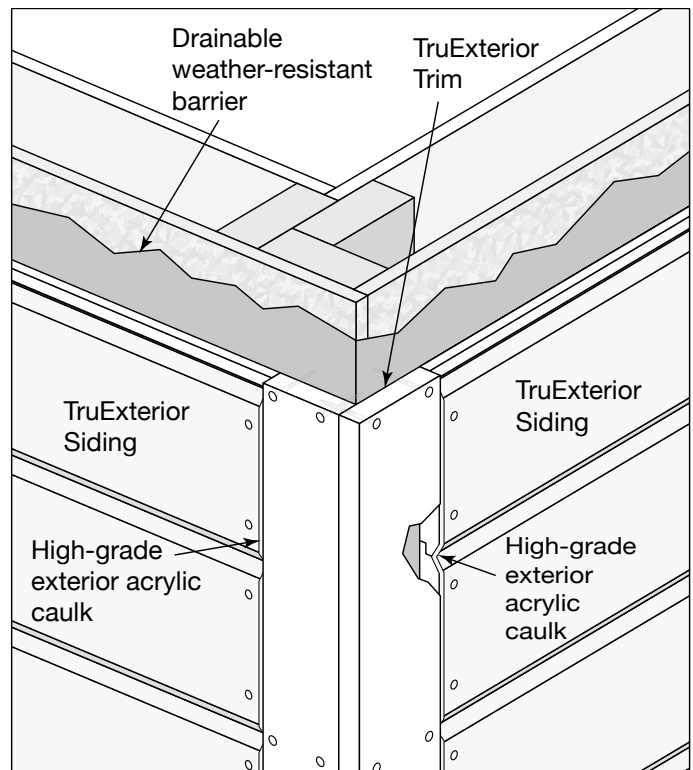

Fig. 9b: Outside corner detail, no gap and with caulk
- Typical outside corners are created using 1"x5" and 1"x6" trim, installed using an approved fastener (**Fig. 9b**).
- Secure each trim piece with 2 nails every 16" along the length of each piece of trim, staggering the nail pattern slightly to prevent opposing nails from contacting each other (**Fig. 9b**).
- Ensure that the nails penetrate the framing and the nails of the longer trim piece penetrate the shorter trim piece at the corner (**Fig. 9b**).
- Butt each course of siding up to the corner trim and secure in place (**Fig. 9b**).
- Seal the joint between the outside corner trim and the siding with high-grade, exterior acrylic caulk (**Fig. 9b**).